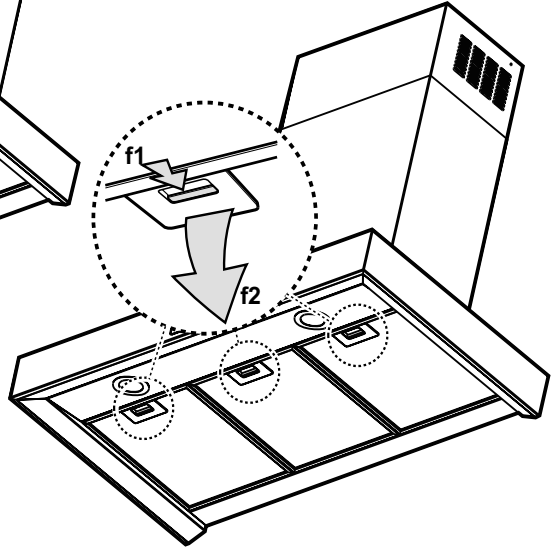

Fig. 2
## Grease Filters (see Fig.2)
## Carbon Filters (see Figs.2 and 3)
- b. Remove the grease filters (Fig. 2).